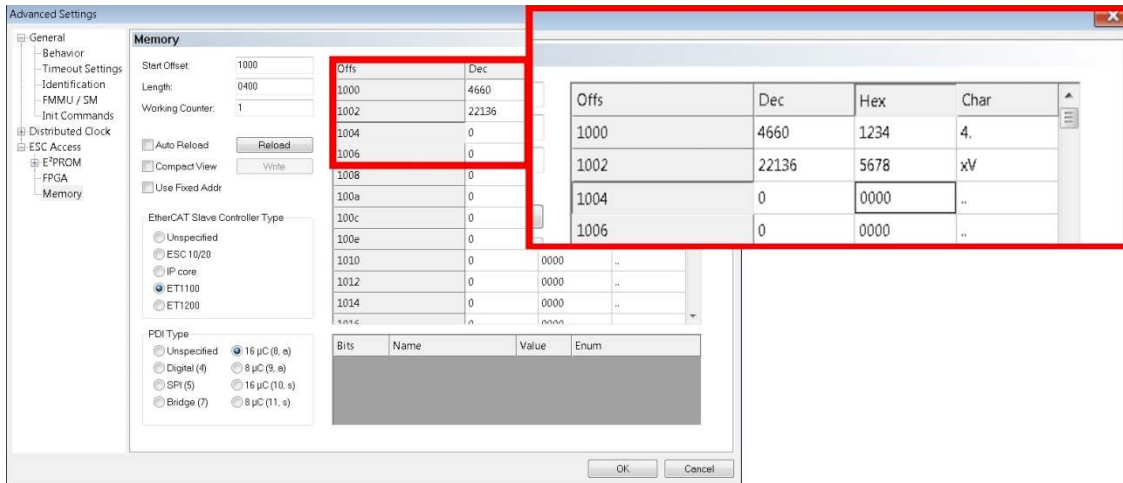

Figure 36. TwinCAT3 Memory Read Window
- Open up the “advanced settings” window in TwinCAT3 and go to the memory browser at ESC Access → Memory and view Start Offset = 1000h as shown in Figure 36.